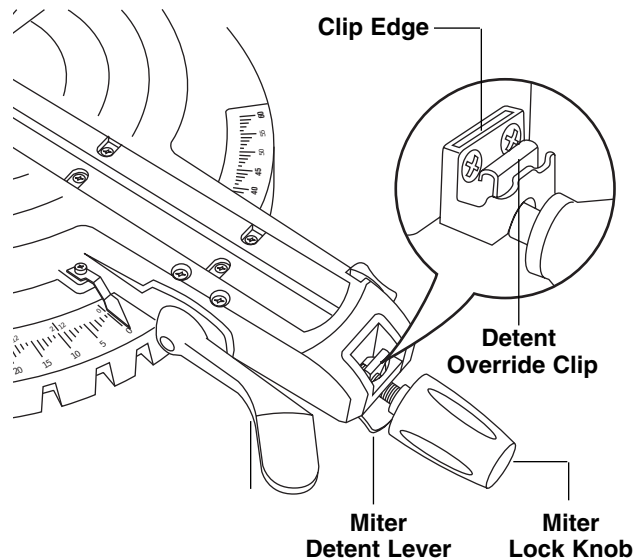

Figure 24. Detent Override
2. Push the detent override clip forward and latch in place over edge. Release miter detent lever (Figure 24).